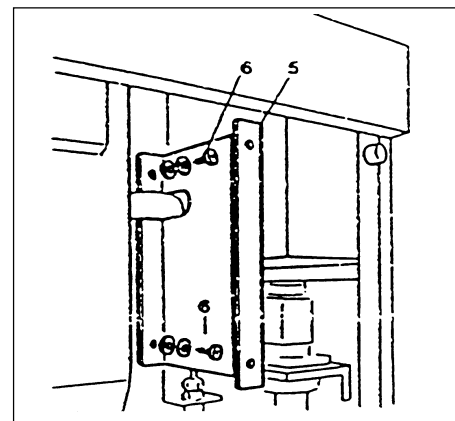

Fig.3
3. Remove the front and the 2 lateral panels of the lower ice maker and fit the conveyor support No.5 (Fig. 3).